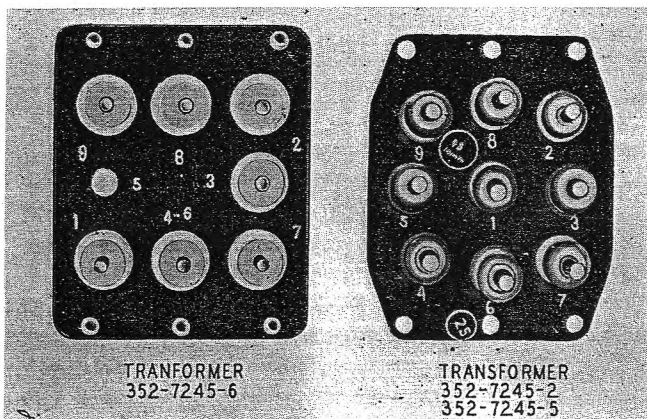

Figure 6-1. Transformer T-105—Terminal Location
b. When the old transformer is removed, all leads should be properly identified to aid in installing the new transformer. Figure 6-1 shows the terminal marking for the replacement transformers that will be supplied to the field. Note that on transformer T-105 (Philco Part No. 352-7245-6), terminals 4 and 6 are connected together internally and terminal 1 is in the position normally occupied by terminal 4. After the new transformer is installed, the following lead dress must be used to eliminate corona.